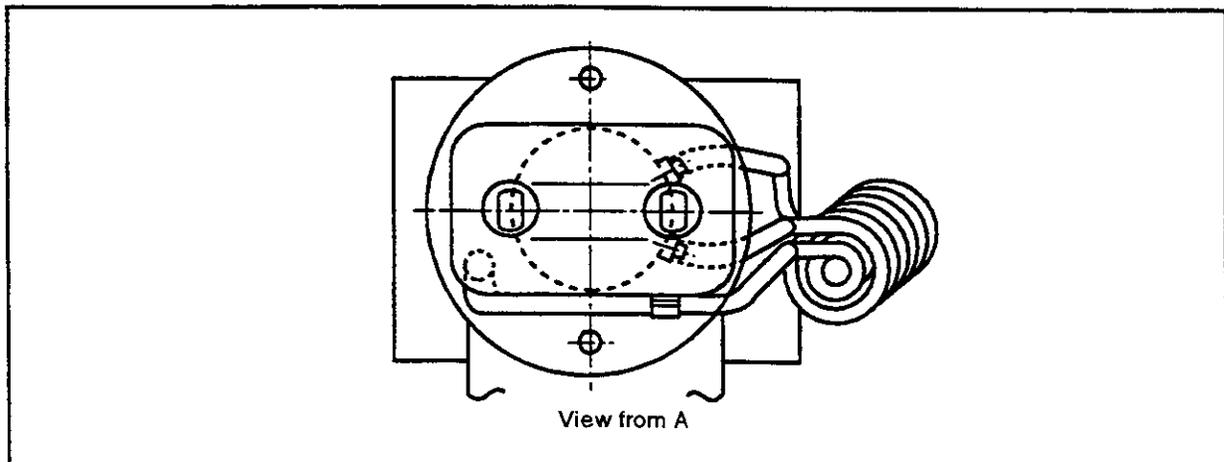

Fig. 1.3 Position of correctly installed hand
- (1) Use four M5x16 hexagon socket head bolts to install the hand adapter (7) to the main robot unit's mechanical interface.
- (2) Use four M3x12 hexagon socket head bolts (6) to install the pneumatic hand to the hand adapter. Use Fig. 1.3 to find the where the ends of the cables should be connected to the adapter.
While operating the hand, depending on the pitch axis and the roll axis, the hand curl-tube and the hand check cable can get entangled with the hand adapter and forearm. In this case, temporarily remove the hand, and reposition it to its correctly installed position, as shown in Fig. 1.3.